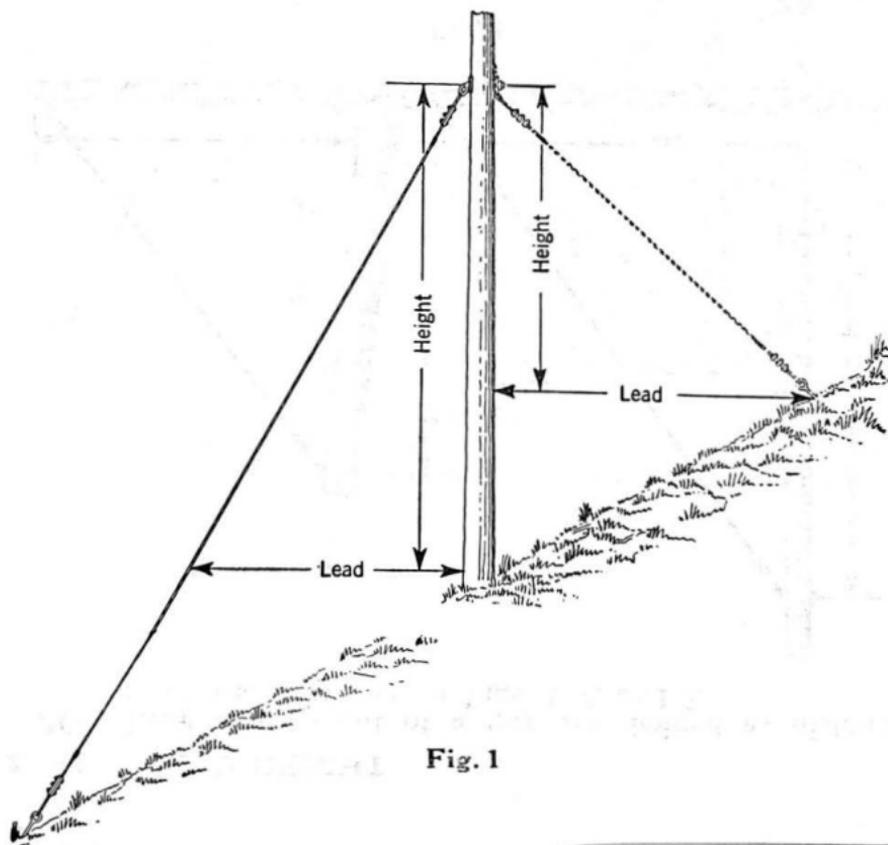

Fig. 1
2.01 Lead and Height of a guy are defined as distances measured as shown in Figs. 1, 2, and 3.